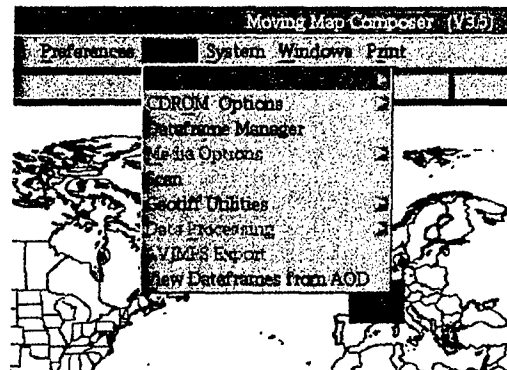
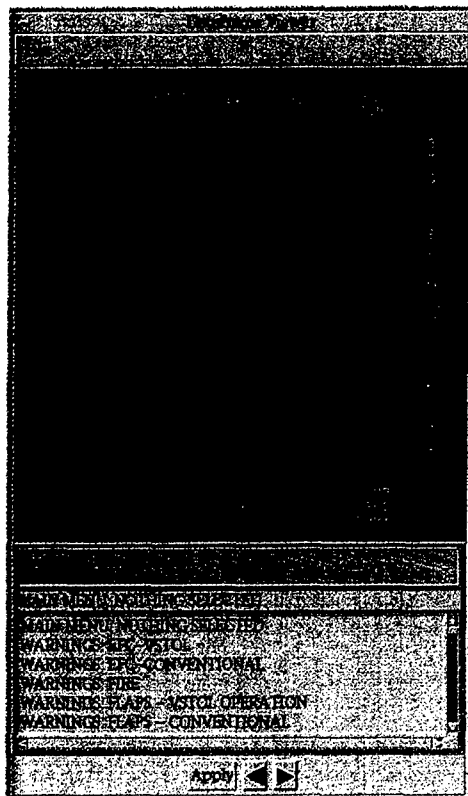
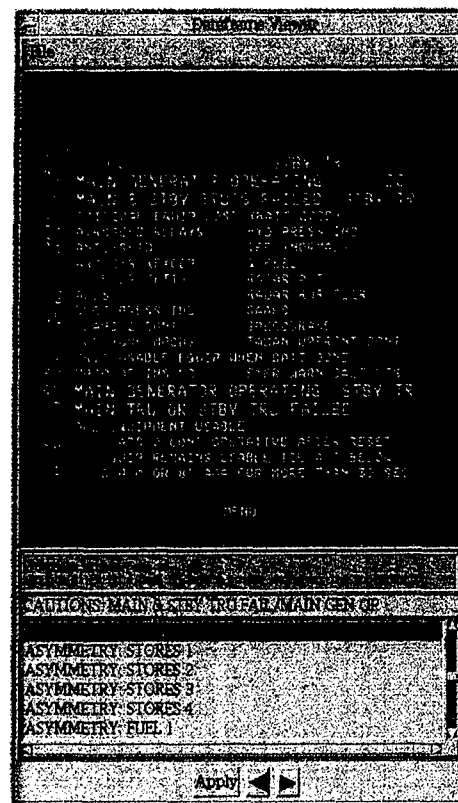

Fig. 87 — View Dataframes from an AOD option
Fig. 88 — Dataframe Viewer
Fig. 89 — Sample dataframe
3. View checklist data: click on Tools, then View Dataframes from an AOD (Fig. 87). It will take MMC several seconds to display the Dataframe Viewer Window (Fig. 88). When it does, scroll through the available checklists for this AOD (Fig. 89).